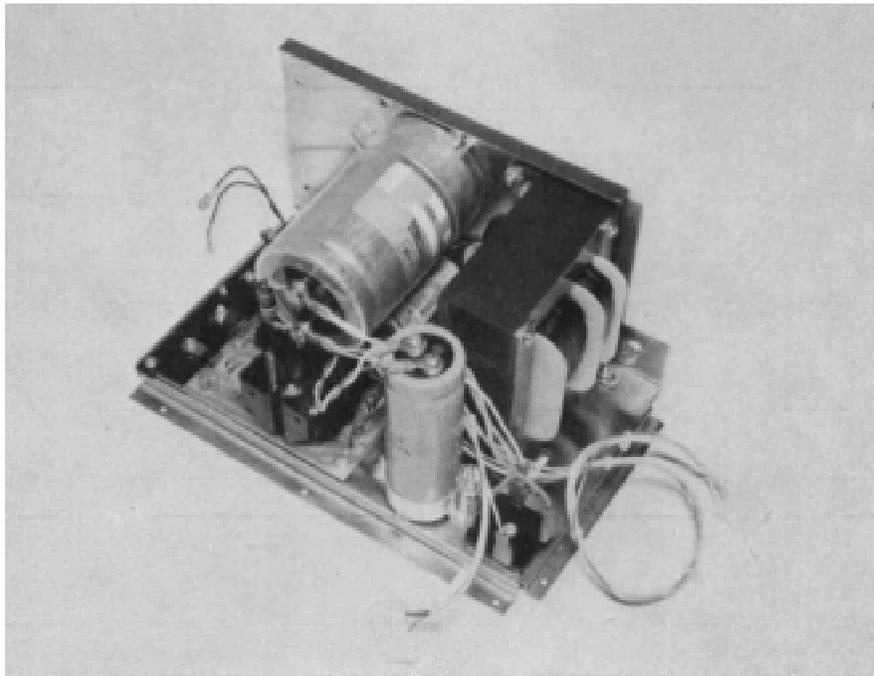

Figure 2-5. Sol-20 power supply subchassis assembly.
Position ring over the three mounting holes in the side wall of subchassis so the clamping screw faces the bottom of subchassis and so it will be accessible from the Sol-REG end of the subchassis. Insert three 6-32 x ½ binder or pan head screws from outer side of side wall through the mounting holes. Place #6 lockwasher on each screw and secure with 6-32 hex nut. Figure 2-5 shows an assembled Sol-20 power supply subchassis.
- *() Step 39. Mount C9 in its mounting ring with its "+" terminal slightly toward C8 and tighten clamping screw. (See Figure 2-5.)
Solder a #10 lug to each lead of R13. Bend leads of R13 to fit the terminals of C9. (R13 should fit on C9 as shown in Figure 2-5.)